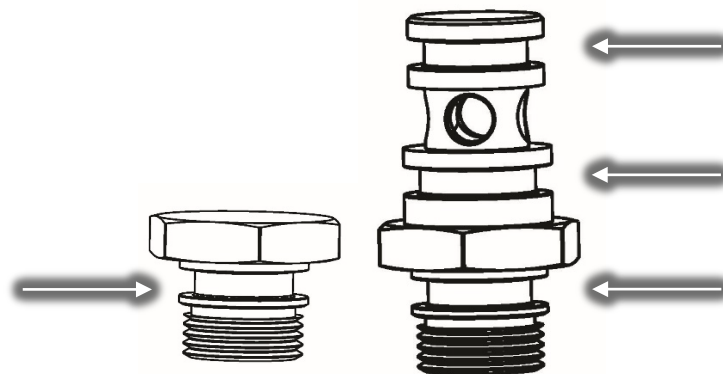

Figure 6 – O-Ring Grooves
6. Clean the lower O-ring grooves in the Plug and SCR Manifold Return Brass Fitting. Refer to *Figure 6 – O-Ring Grooves*.